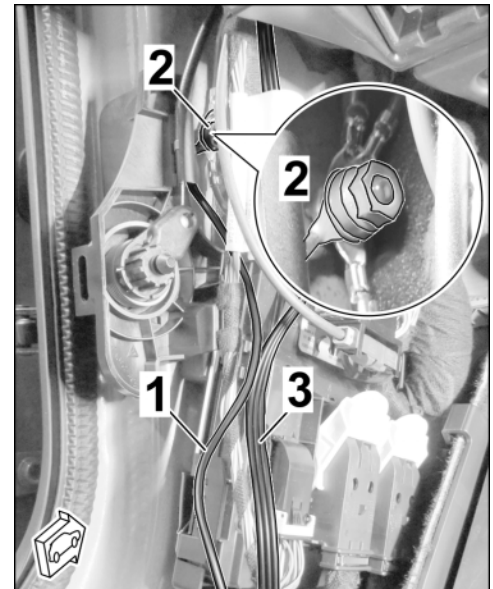

Figure 17
3.3.6 Route BK; 0.5² line (terminal 31) to ground pin MB11, shorten it and install it on ground pin MB11 using cable ring eyelet A6 (⇒ *Figure 17*).